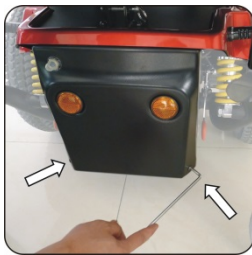

Figure 6-3
6.7.1.1 Remove the two screws on the battery casing in the front of the wheelchair. (Figure 6-3)
6.7.2.2.4 Re-tighten the screws on the rear cover. (Figure 6-3 & 6-4)